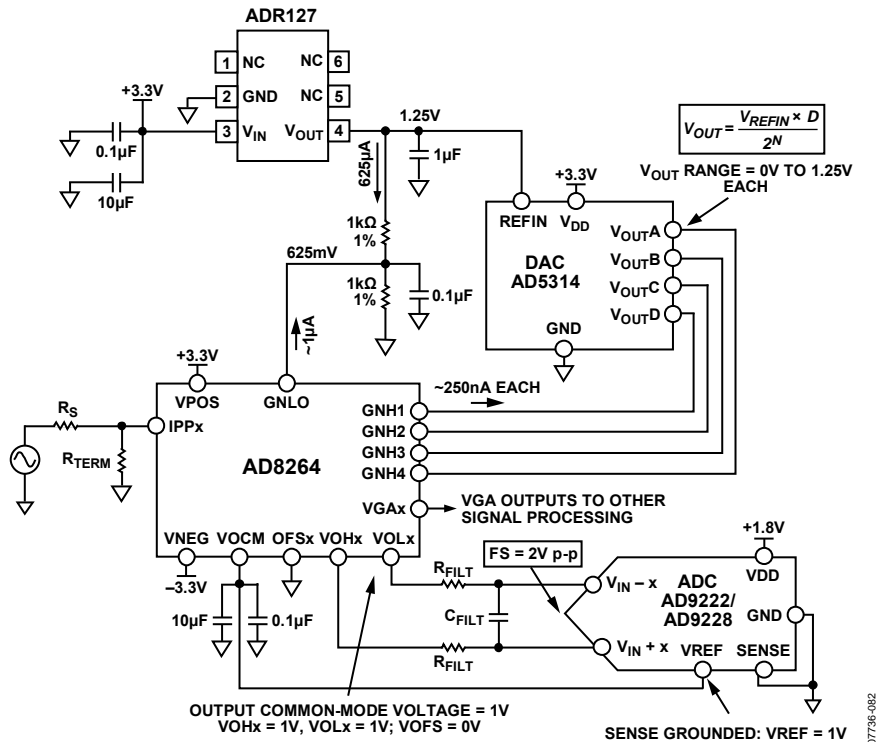

Figure 112. Application Concept of the AD8264 with the AD5314 10-Bit DAC and the AD9222/AD9228 12-Bit ADC
The AD8264 is particularly well suited for use in the analog front end of medical PET imaging systems. Figure 112 shows how to use the AD8264 with the AD5314 (a 4-channel, 10-bit DAC) and the AD9222/AD9228 (an octal or quad, 12-bit ADC, respectively). The DAC sets the gain of the AD8264. Note that the full gain span of 24 dB is achieved with this setup because the gain control input range of the AD8264 is very close to 1.25 V. The GNLO pin must offset by $1.25/2 = 625$ mV because the gain control input is bipolar around the voltage applied at GNLO. This is done with two 1 k Ω , 1% resistors. The approximately 1 μ A of bias current flowing from the GNLO pin does not contribute a significant error because the basic gain error of the AD8264 is the limiting factor.
Figure 112 also includes the DAC output equation, which indicates that the output can vary between 0 V and $V_{REF} = 1.25$ V.
The single-ended-to-differential amplifier of the AD8264 amplifies the VGA output signal by 6 dB and can provide the required dc bias of the AD9222/AD9228, as shown in Figure 112. The ADC is connected with the default internal reference because the SENSE pin is grounded. With this connection, the AD9222/AD9228 VREF pin is an output that provides 1 V; this is then connected to the VOXM input of the AD8264, which sets the output common-mode voltage of the VOHx and VOLx pins to 1 V. This voltage is very close to the recommended optimal value of $V_{DD}/2 = 0.9$ V. With this configuration, the ADC inputs are set to a full-scale (FS) of 2 V p-p.
The dc connected concept example in Figure 113 is an application with the 40-channel AD5381, 3 V, 12-bit DAC. The main difference between this example and Figure 112 is that, for the same ADR127 1.25 V reference, the full-scale output of the DAC is from 0 V to $2 \times V_{REFIN} = 2.5$ V. Two options for gain control include the following:
- Use the same circuit as in Figure 112 but use only half the DAC output voltage from 0 V to 1.25 V. This is the simplest solution, requiring the fewest extra components. Note that the overall gain resolution increases by one bit to 11 bits over the 10-bit AD5314.
A convenient method of verifying and customizing the signal chains shown in Figure 112 and Figure 113 is by ordering the corresponding evaluation boards available on www.analog.com. The AD8264-EVALZ is a platform through which the user can quickly become familiar with the features and performance capabilities of the AD8264. See the Evaluation Board section for more information.